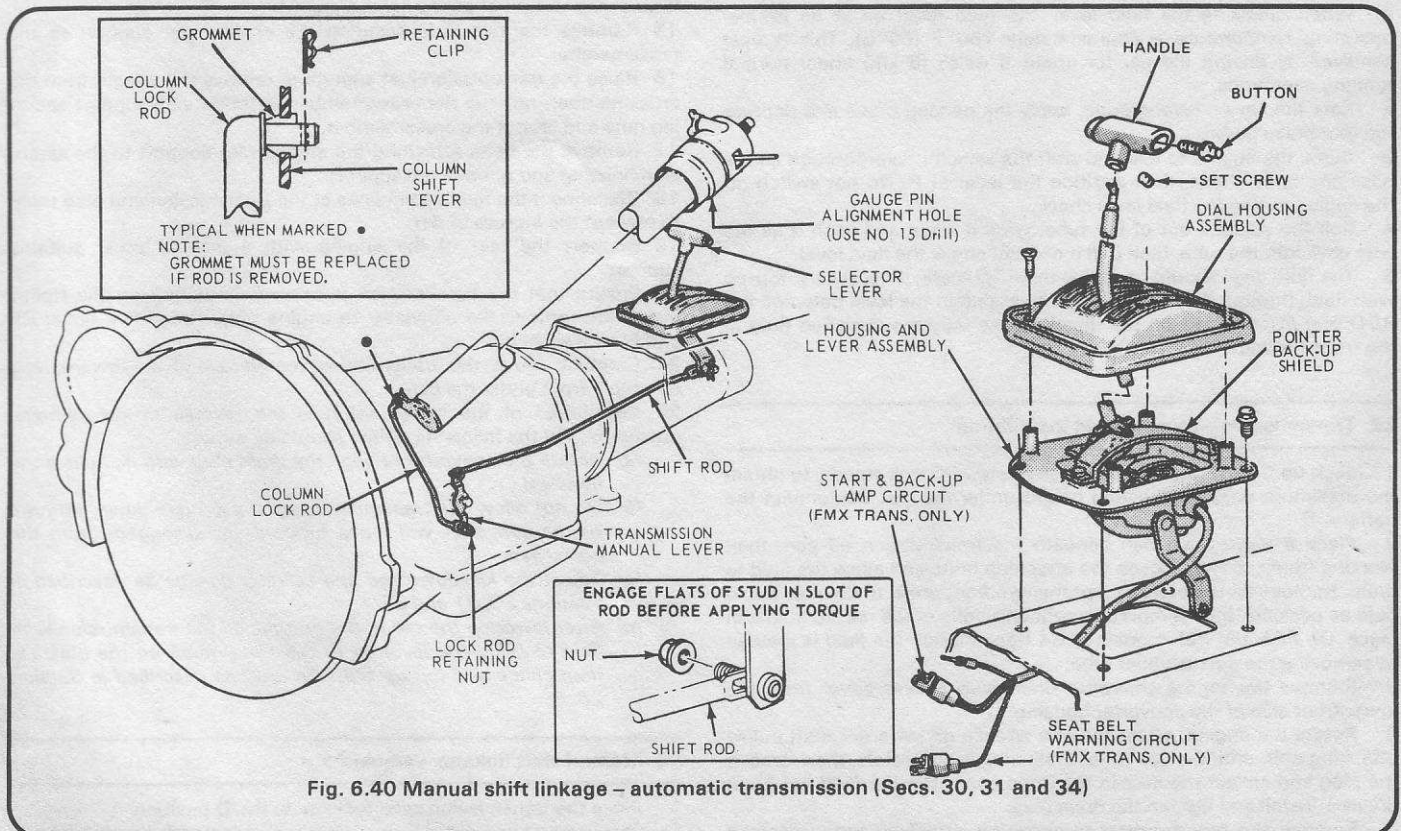

Fig. 6.40 Manual shift linkage – automatic transmission (Secs. 30, 31 and 34)
the manual lever shift rod retaining nut (see Fig. 6.40) and position the transmission manual lever in the **D** detent.
- 1 Loosen the lock-rod retaining nut (see Fig. 6.40) on the transmission manual lever.
- 2 Undo the selector lever handle securing screws and remove the handle (see Fig. 6.40).